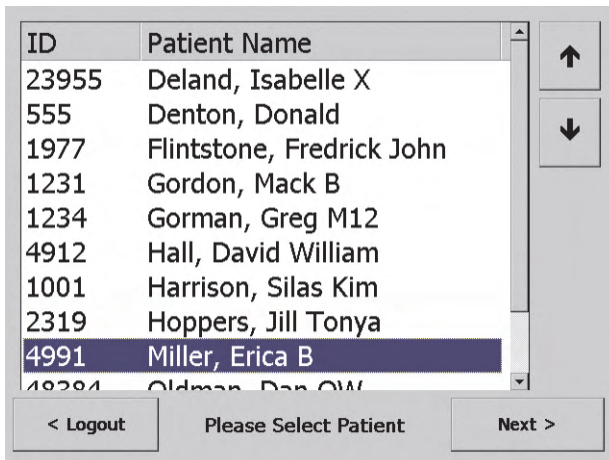

Figure 51 — Select Patient
1. Press **Scan Patient** on the **Login Screen**. The **Select Patient** screen appears (Figure 51). Patient names appear in alphabetical order. To find a patient, tap the up and down arrows on the right side of the screen to move between pages of patients.